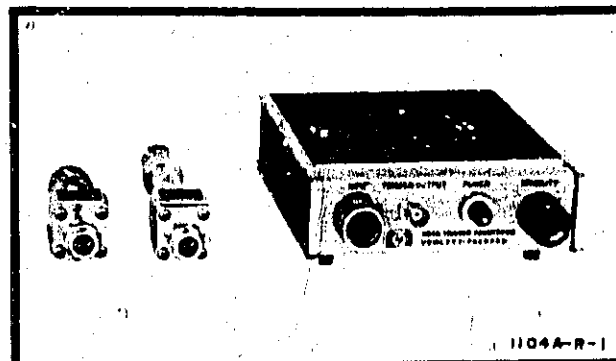

Figure 1. Trigger Countdown, Model 1104A/1106B/1108A
2. Model 1104A is used with either the Model 1106B or 1108A Tunnel Diode Mount (Figure 1) to form a Trigger Countdown to synchronize the time base of sampling oscilloscopes with displayed signals in the microwave region. Specifications are listed in Tables 1 and 2.